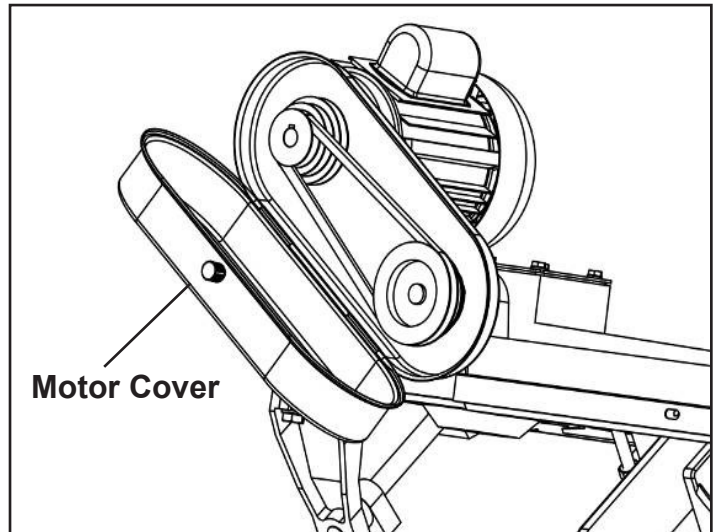

FIGURE 17
1. Open the motor cover. SEE Figure 17.